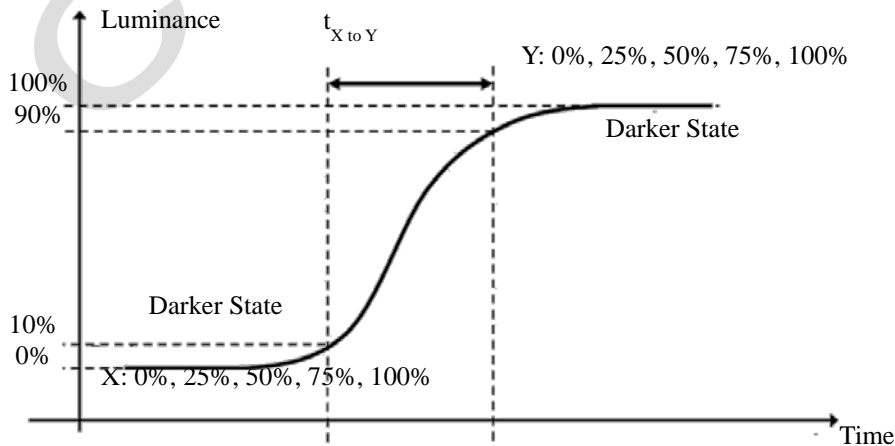

Fig. 6.4 The definition of $t_{X \text{ to } Y}$
(3) Response time T_L is defined as the average transition time in the response time matrix. The table below is the response time matrix in which each element $t_{X \text{ to } Y}$ is the transition time from luminance ratio X to Y, X and Y are two different luminance ratios among 0%, 25%, 50%, 75%, and 100% luminance. The transition time $t_{X \text{ to } Y}$ is defined as the time taken from 10% to 90% of the luminance difference between X and Y ($X < Y$) as illustrated in Fig6.4. When $X > Y$, the definition of $t_{X \text{ to } Y}$ is the time taken from 90% to 10% of the luminance difference between X and Y. The response time is optimized on refresh rate $F_R = 60\text{Hz}$.